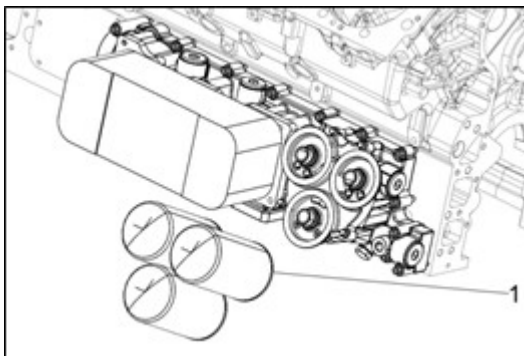

Figure 151
4. Remove the oil filter (Fig 151, item 1) with the special tool.